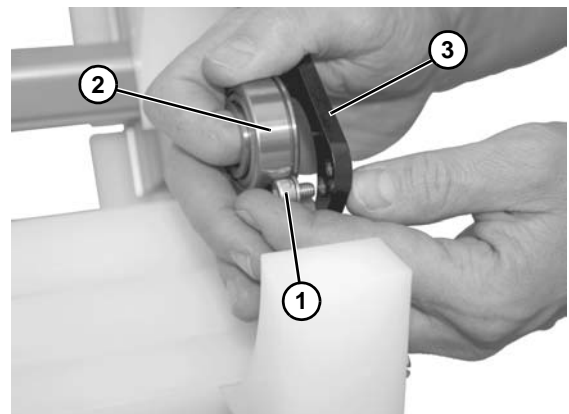

Figure 84
5. Remove three socket head screws and washers (**Figure 84, item 1**) that retain bearing (**Figure 84, item 2**) to support bar (**Figure 84, item 3**). Repeat on opposite side.